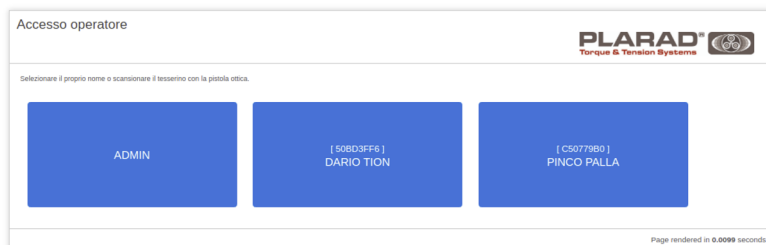

Fig. 24: Login
- Press the user's tile (Fig. 24).
⇒ The home screen is closed and the login screen (Fig. 24) is displayed.